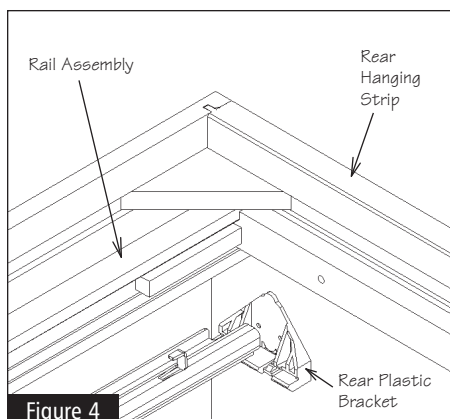

Figure 4
- 5** • Attach chopping block or cutting board rail assembly to rear hanging strip of cabinet using (2) 1" X #8 screws, making sure that the rail assembly is square to the cabinet and pre-drilling first with the 1/8" drill bit, 3/8" deep (see Figure 4). Note: Lip of rail assembly goes under rear hanging strip.